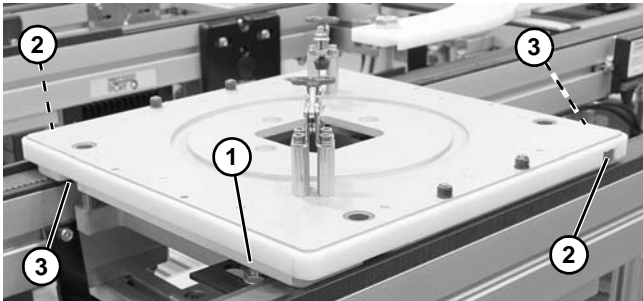

Figure 28
- One bottom (**Figure 28, item 1**) and two side flags (**Figure 28, item 2**) (when bumpers are not installed) can be used for sensing.
- Stop only has to be released long enough to clear pallet skirt that was stopped. Notches (**Figure 28, item 3**) in skirt allow stop to be reset before pallet clears stop area.